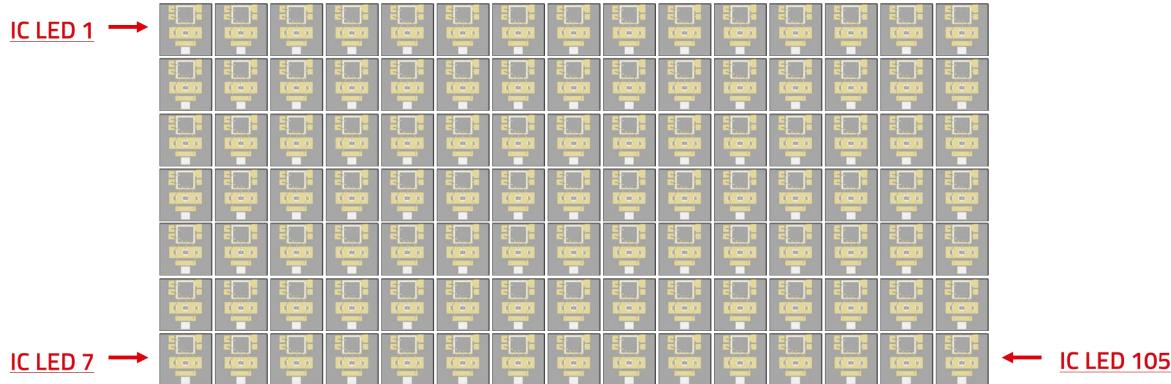

Figure 18: Schematic pin numbering of ICLED FeatherWing
**Note:** The IC LEDs are connected in a daisy chain. The numbering starts from ICLED1 at the top-left corner and progresses vertically down to ICLED7. ICLED8 is the LED right adjacent to ICLED1, and the sequence continues vertically again. This pattern repeats, ending with ICLED105 at the bottom-right corner as seen on figure 18.